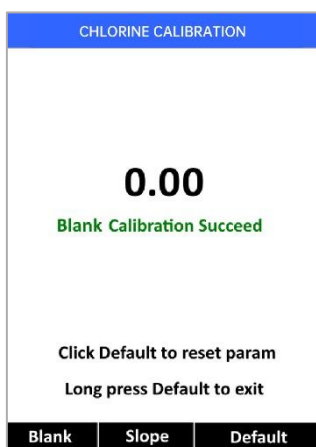

Figure 30 Blank Calibration
8. "Blank calibration succeeds" will be displayed if blank calibration completed (Figure 30).